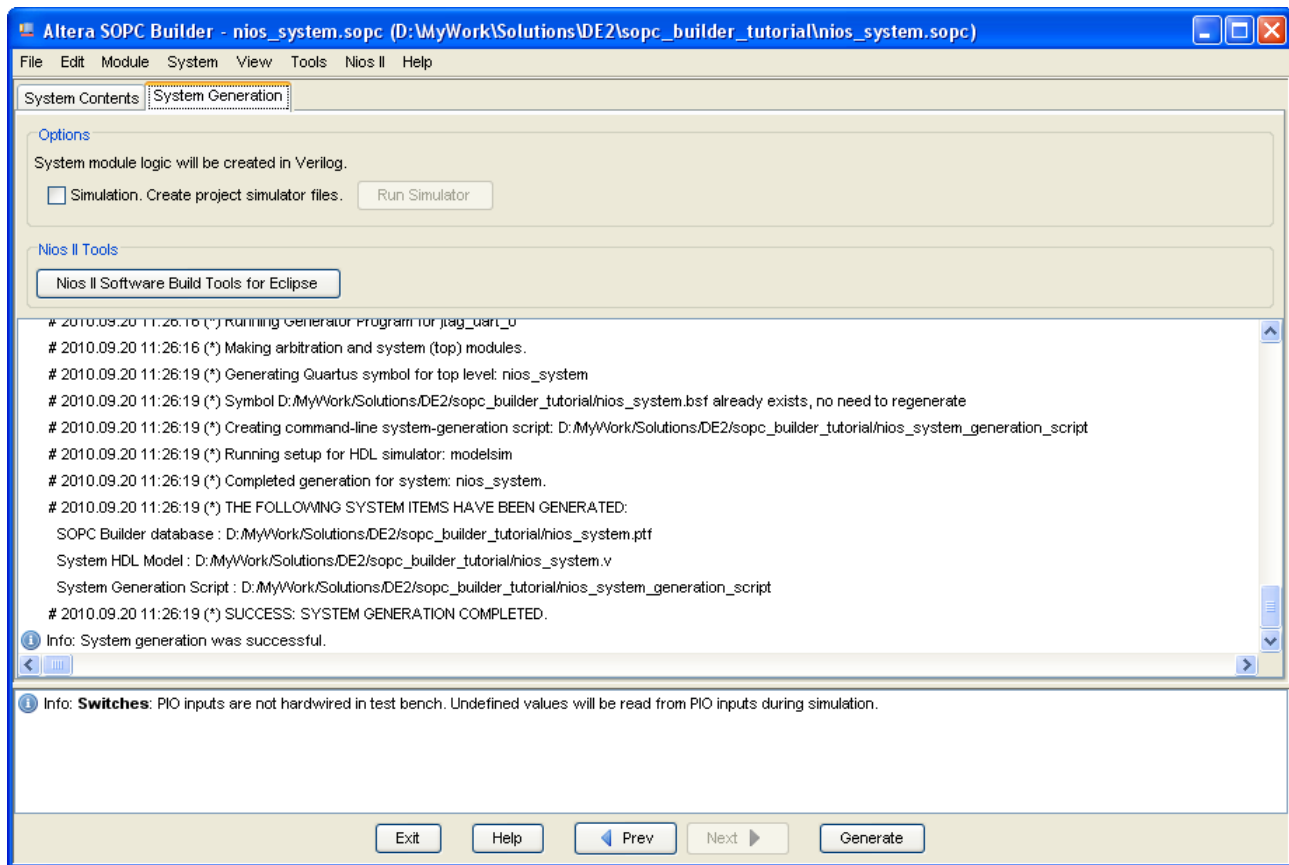

Figure 16. Generation of the system.
- Having specified all components needed to implement the desired system, it can now be generated. Select the System Generation tab, which leads to the window in Figure 16. Turn off Simulation - Create project simulator files, because in this tutorial we will not deal with the simulation of hardware. Click Generate on the bottom of the SOPC Builder window. The generation process produces the messages displayed in the figure. When the message "SUCCESS: SYSTEM GENERATION COMPLETED" appears, click Exit. This returns to the main Quartus II window.